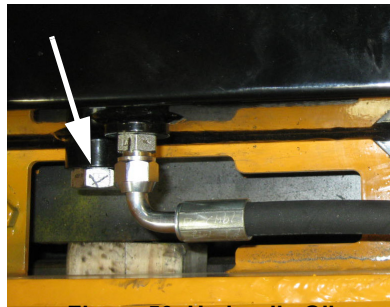

Figure 50 Hydraulic Oil Reservoir Drain Plug
3. Remove the drain plug on the reservoir tank and allow the oil to drain (Figure 50).